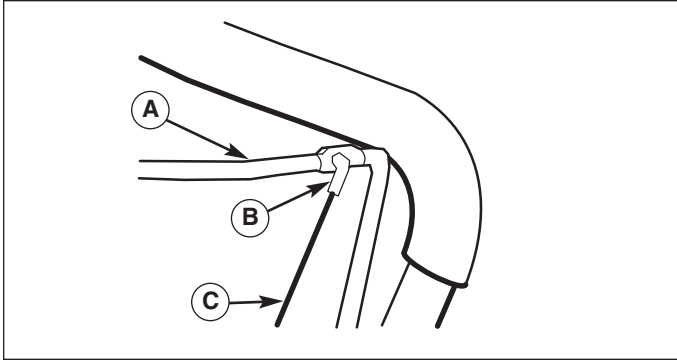

Figure 3. Z-Hook Installation
2. Attach the auger drive cable (C, Figure 3) to the auger drive lever (A) using the Z-hook (B).